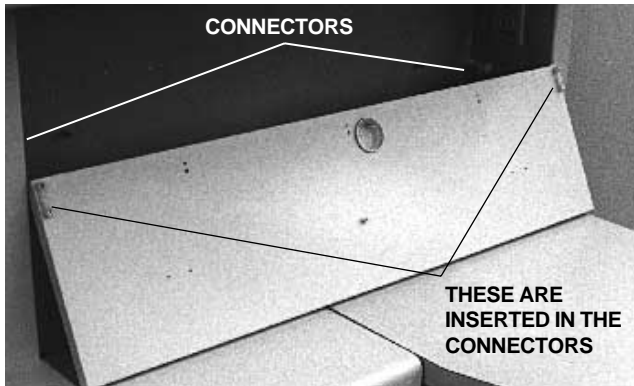

FIGURE 23
- Place the shelf on the two connectors at the back of the module and insert the two gold-colored screws in the holes in the back of the shelf. Then place the front of the shelf on the top of the accessory panel (see Figure 23).